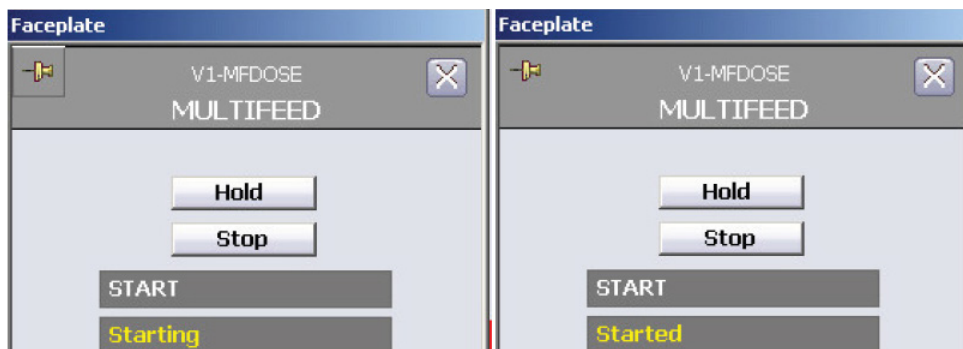

Figure 4.67. “Starting” and “Started” statuses shown.
4. To remove the alarm, click **Acknowledge Alarm**. In addition, when **Resume** is clicked, the button changes again to “Hold,” and the interface indicates that the process has started (Figure 4.67).